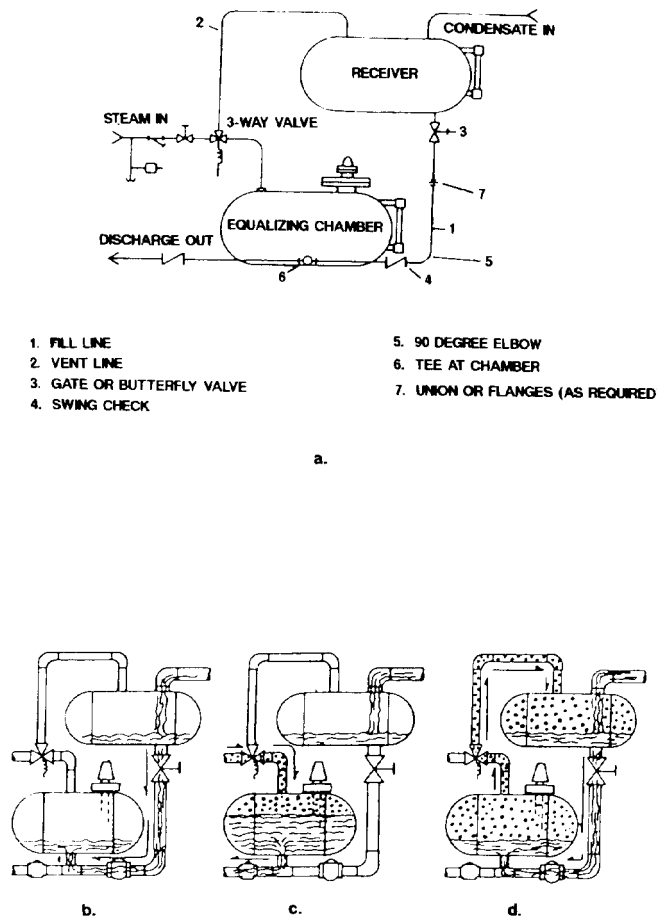

Figure 4-17. Steam pressure pumping.
b. Operation. Figure 4-17 shows the operating cycle for one type of steam powered pumping system. Condensate from the equipment being drained enters the receiver tank and flows down the fill line into the equalizing chamber (figure 4-17(1)). When a predetermined high level is reached in the equalization chamber, the level control system sends out a signal which causes the 3-way valve to cycle. When this valve cycles, the vent line is closed off and high pressure steam is admitted to the equalization chamber. This steam pressure is confined above the condensate in the chamber and its effect is to move the condensate out of the chamber and into the discharge line. When the condensate reaches a predetermined low level, the level control system sends another signal causing the 3-way valve to revert to its original position. Residual steam remaining in the equalizing chamber will flow through the vent line into the receiver enabling the pressures in the two tanks to equalize with each other. When this is completed, flow of condensate from the receiver tank to the equalizing chamber will start again. The cycle then repeats itself.
(1) *Fill cycle.* When condensate from equipment being drained enters the receiver, it will also enter the fill line connecting the two tanks (figure 4-17(2)). Since the 3-way valve is not energized, its normally open port will allow both tanks to be pressure equalized through the vent connection. Therefore, the flow of condensate is by gravity head only. Typically, gravity head is 1 to 3 psi. Therefore, it is important that friction losses be minimized. While filling is taking place there is no steam flow through the 3-way valve and no condensate flow into the discharge line. The check valve in the discharge line prevents back flow into the equalizing chamber. The fill cycle is complete
(2) *Equalization and discharge cycle.* The steam flow through the 3-way valve enters the equalizing chamber at a point above the condensate (figure 4-17(3)). The initial pressure in the tank immediately begins to increase. Until tank pressure exceeds discharge line pressure no condensate will be discharged. This period is called the equalization cycle and represents a small fraction of the discharge cycle. As the tank pressure increases above discharge line pressure, condensate flow starts and will continue until the predetermined low level is reached. At this time the level control device sends a signal which allows the 3-way valve to revert to its original position.
(3) *Vent cycle.* Several events take place during the vent cycle (figure 4-17(4)). In its closed position, the 3-way valve prevents high pressure steam from entering the equalizing chamber, but its normally open port will allow the steam used for discharge to flow into the receiver through the vent line. Until this steam pressure is equalized with the receiver, no condensate flow will occur between the two tanks because the residual pressure keeps the fill line swing check closed. Condensate entering the receiver during discharge and vent cycles remains in the receiver until the next fill cycle begins.